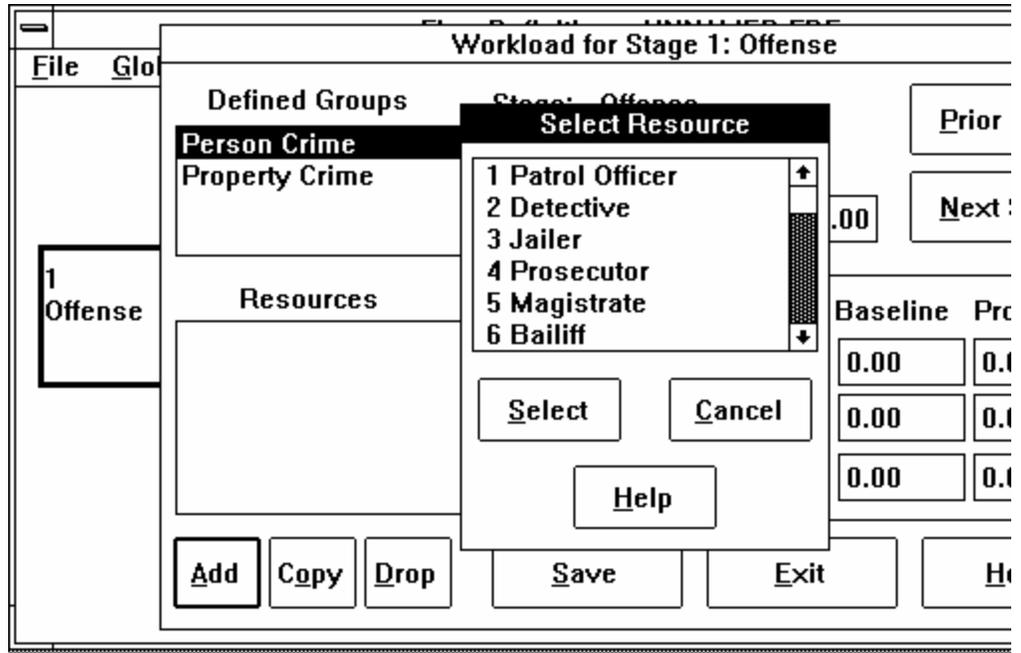

Figure 5-25. The first resource selected.
- Click Patrol Officer and then click the Select button to select it. The resource you selected will appear in the Resources box (Figure 5-25).